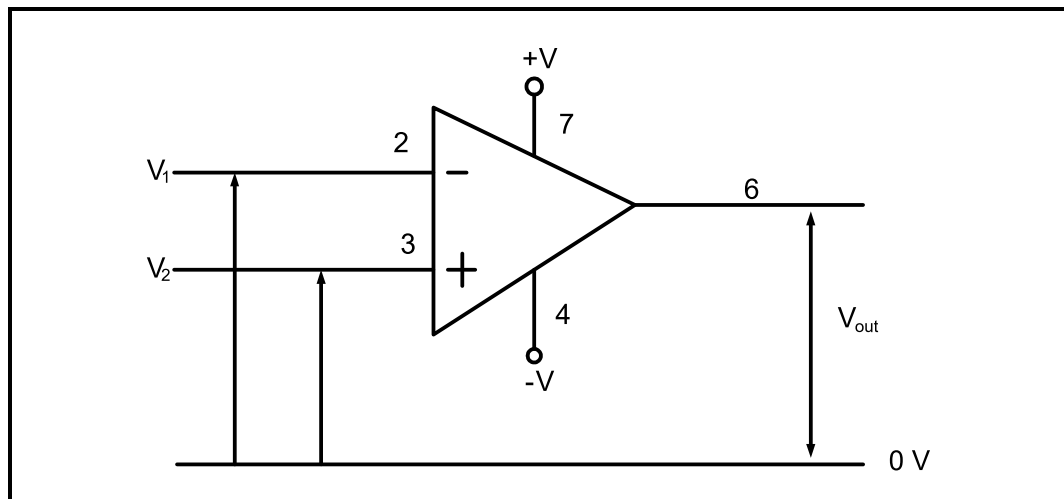

FIGURE 4.6: IDEAL OPERATIONAL AMPLIFIER
4.6 Refer to FIGURE 4.6 below and answer the questions that follow.
4.6.2 Draw the output of the op amp in FIGURE 4.6 above on the ANSWER SHEET for QUESTION 4.6.2 when the input at pin 2 and pin 3 is identical and in phase. (1)